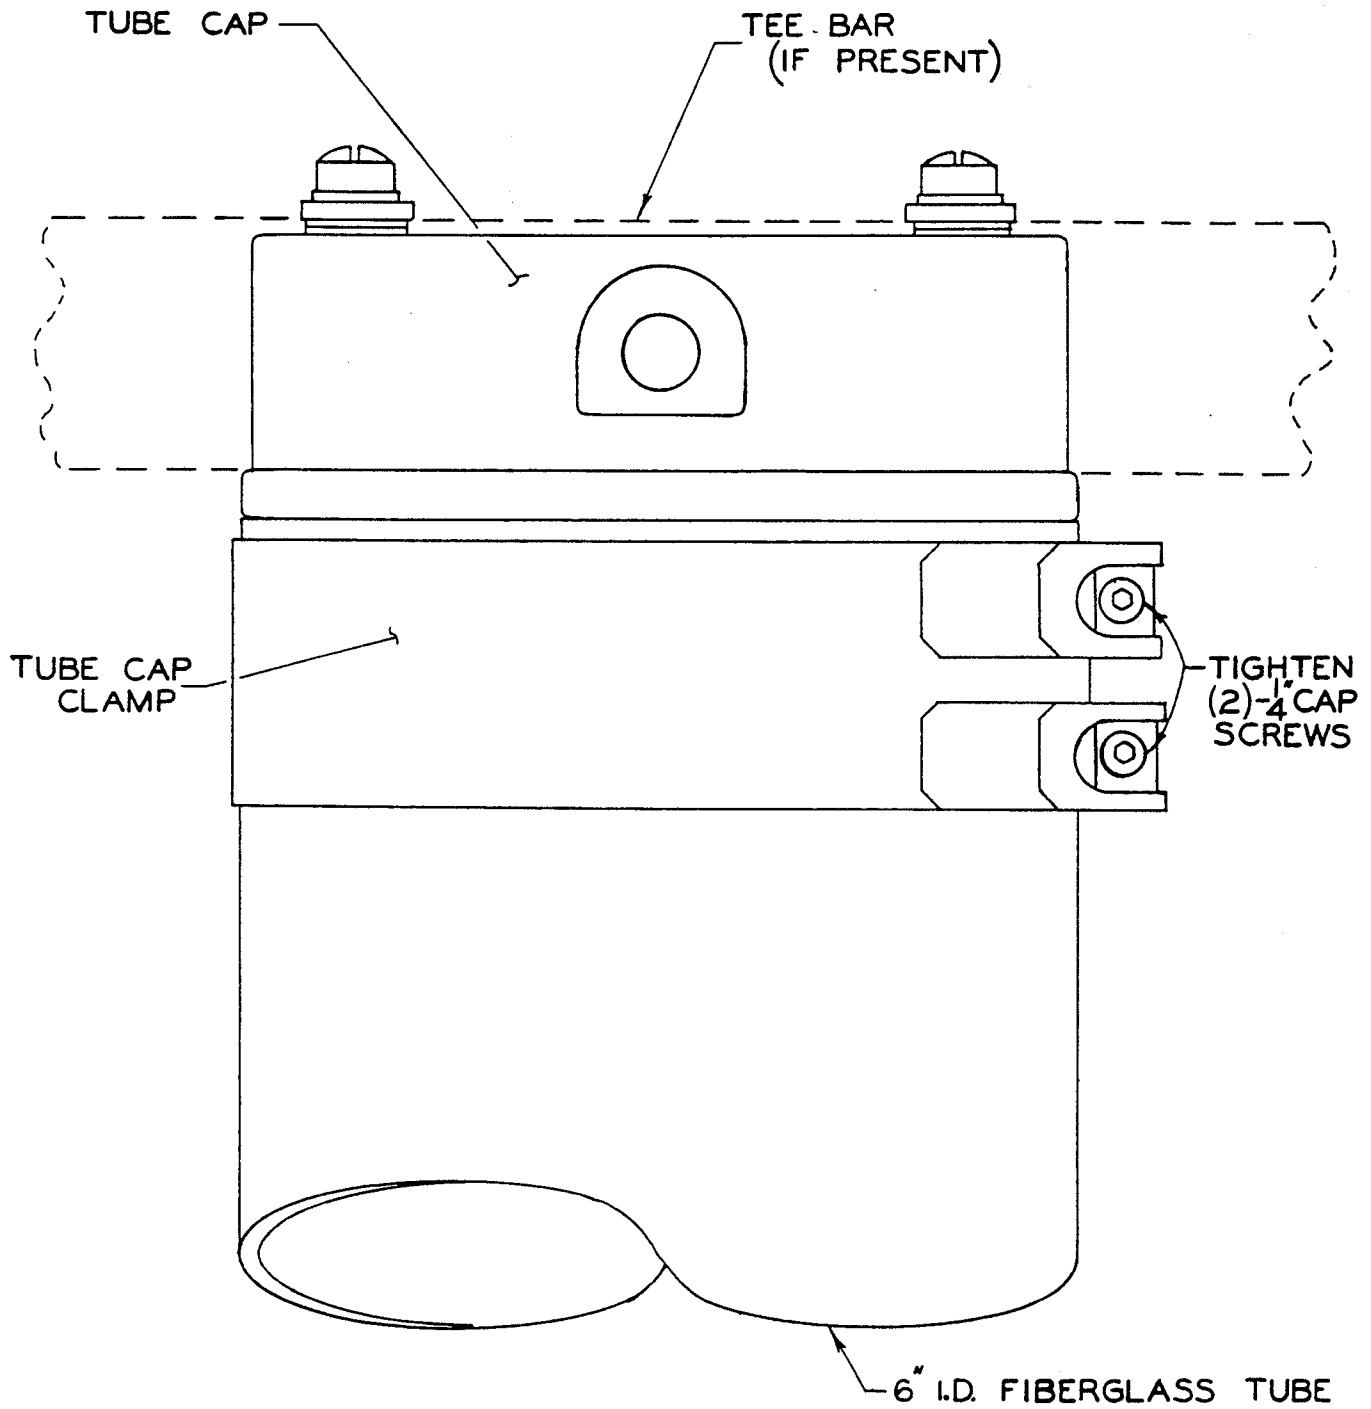

FIG. 6-10
4. All LIR structures: With a 3/16" allen wrench check tightness of 1/4" cap screws on the tube cap clamp (See Fig. 6-10)